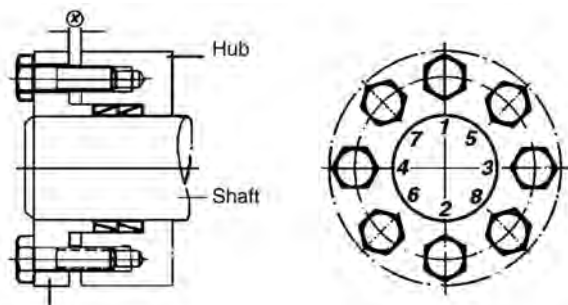

Fig.1 Tightening sequence example
3. Tighten the locking screws evenly and in several steps following the diametrically opposite sequence illustrated in Fig. 1